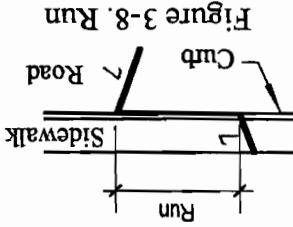

Figure 3-8. Run
■ **Run** — The horizontal length of a contour line that “runs” along any vertical face, such as a wall or a curb, as shown in Figure 3-8. Run is that portion of the contour line which is actually on the face of the vertical surface, in this case, the curb face. Although it is not normally shown graphically on the face of the curb, it is here to illustrate the concept of run. The contour elevation callout, in this example contour 7, defines the fact that the contour line runs on the face of the curb.